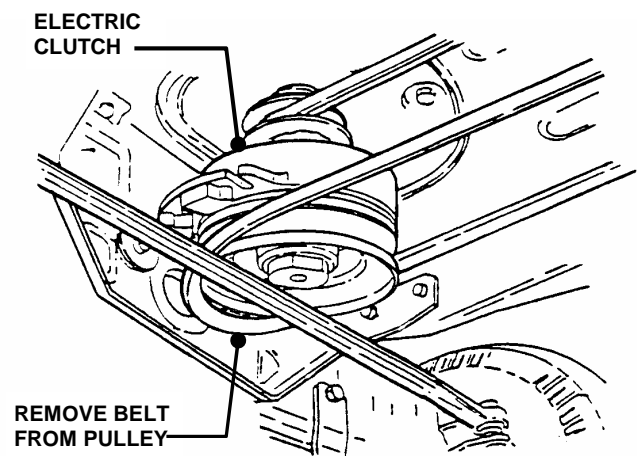

FIGURE 4.20
7. Remove deck drive belt from engine pulley bottom groove. See Figure 4.20.